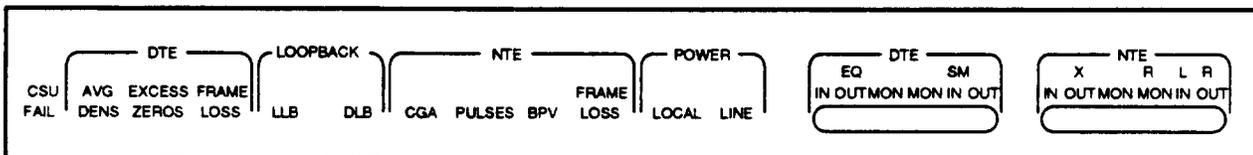

Figure 2. 551E-L1, A ESF CSU Front Panel
2.05 The front panel contains 12 miniature test jacks and 12 lamps (Figure 2). The miniature jacks provide test and monitoring access to the transmit and receive paths for both the data terminal equipment and the network. The 6 DTE jacks provide an interface at the customer equipment side of the CSU and the 6 NTE jacks provide an interface at the DS1 line facility side. The 12 lamps are divided into 5 categories: CSU FAIL, DTE, LOOPBACK, NTE, and POWER.